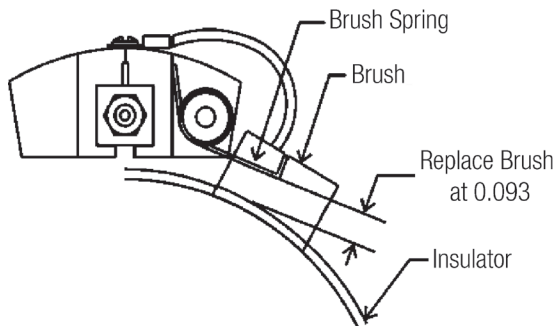

Figure 6-1
4. Replace Brushes when the brush spring is within 0.093" of the ring insulator. **See Figure 6-1.**